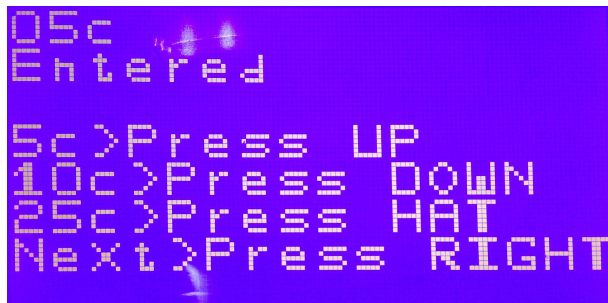
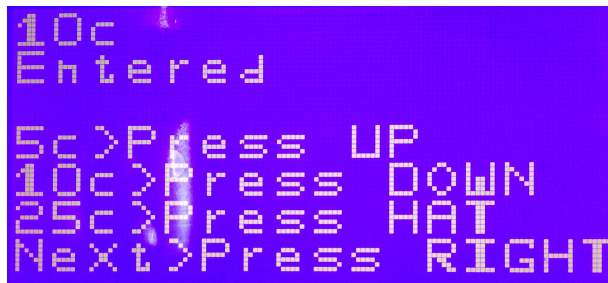
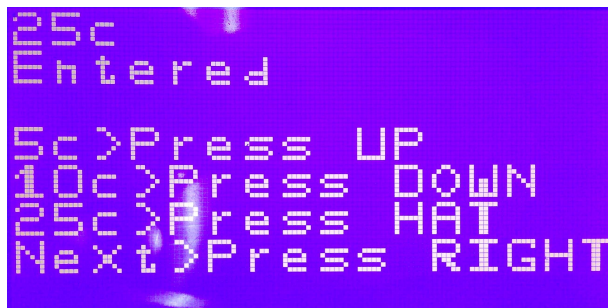

Fig 2: Entered Dime Screen
Fig 3: Entered Nickel Screen
Fig 4: Entered Quarter Screen
- Display total money entered till now. (As in Fig 2, Fig 3 and Fig 4)